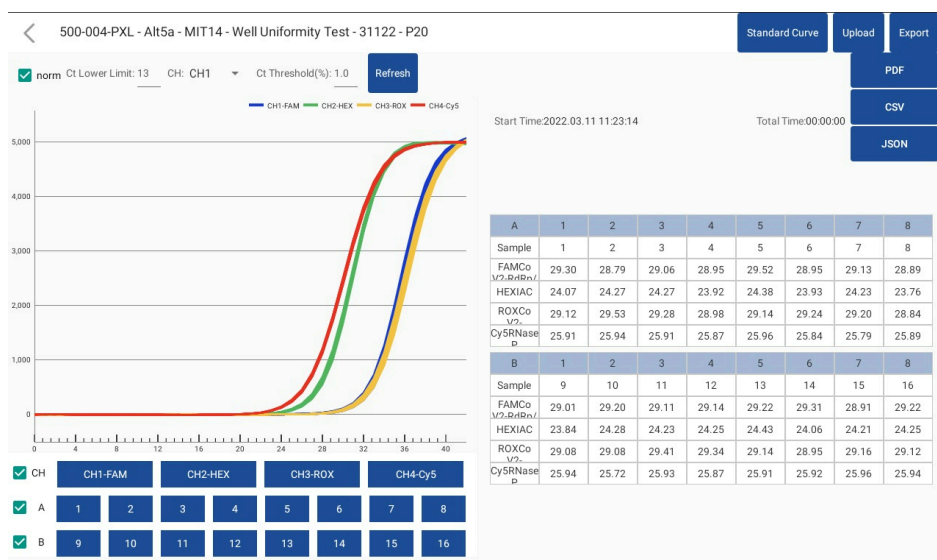

Figure 4.14. pixl™ Real-Time PCR Platform Data export interface.
- 1) Click the "Report" button in the experiment analysis interface to enter the PDF preview interface of the experiment report (Figures 4.14 and 4.15).